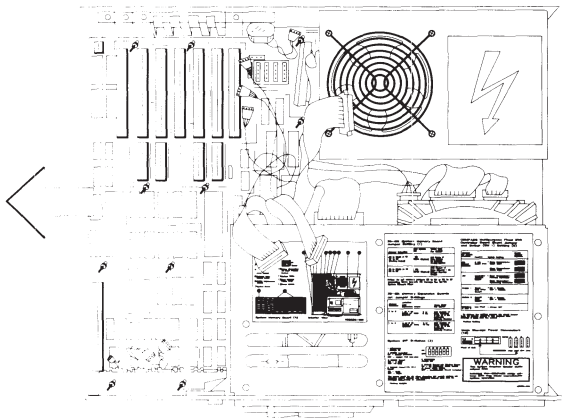

Figure 7-46. Removing the System Board.
5. Carefully remove the system board from the chassis (Figure 7-46).